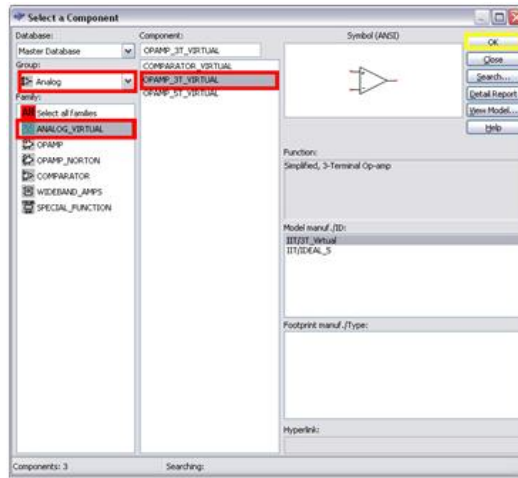

Figure 1. Select a Component Interface
2. In the "Select a Component" dialog box, set the interface to the following settings circled in red (Figure 1). You have now selected the **Analog** group, and the **ANALOG_VIRTUAL** family.